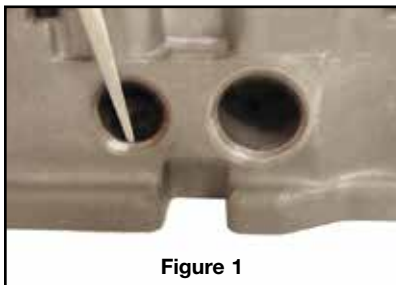

Figure 1
- a. Inspect the bore entry surface for a ridge just inboard of the end or chamfer. The ridge is difficult to see with the naked eye, but can be felt by carefully dragging a sharp pick out the bore and down the chamfer (**Figure 1**).